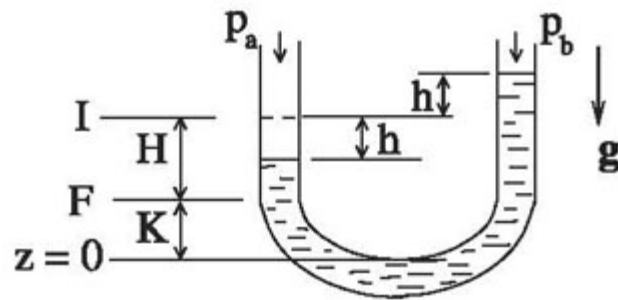

Figure 2.24: Dynamic Response of U-tube Manometer.
**Example:** Consider a U-tube manometer carrying an isothermal incompressible liquid and subject to a pressure difference  $p_a - p_b$  (Figure 2.24). The pressure difference is a constant; the initial liquid level is  $I$  and the final is  $F$ .